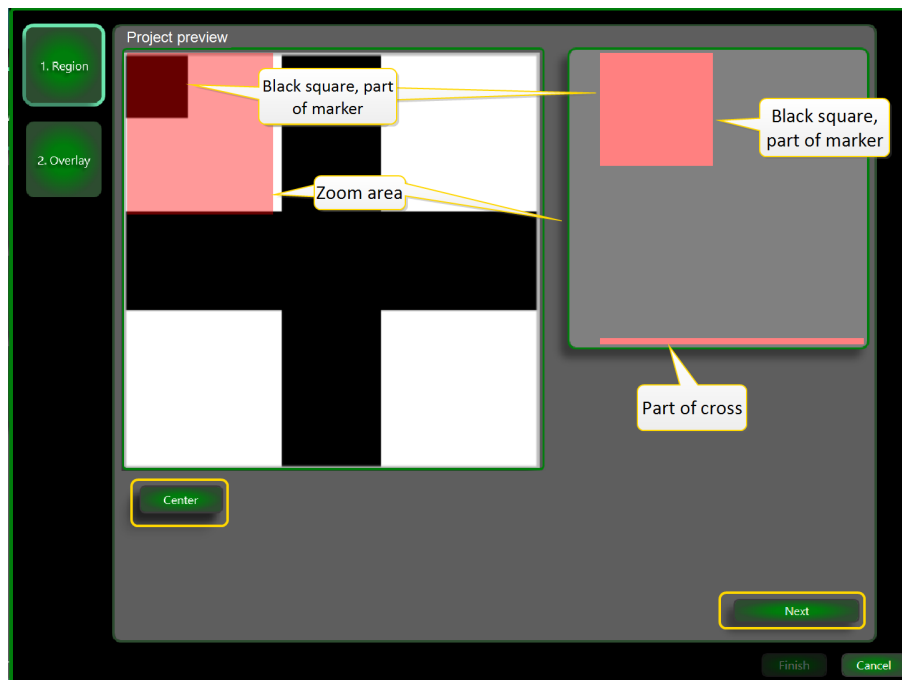
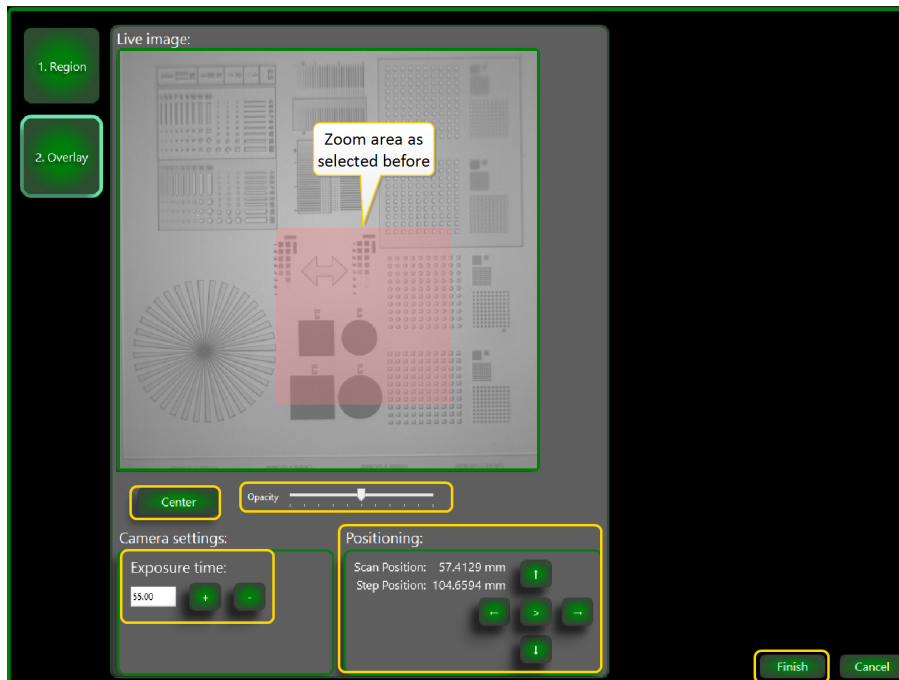

Figure 3-142 Project preview window
Figure 3-143 Project preview window
11. Press **Overlay**. The **Project preview** window becomes visible, see **Figure 3-142 on the facing page**.
The **Project preview** window shows the project image, NOT the alignment camera image. The **Project preview** window is used to select the part of the project that should be aligned to a part of the existing image on the substrate. The project shown in **Figure 3-142 above** is actually a marker.
13. Press **Next** or press the **Overlay** button to go to the **Live image** window, see **Figure 3-143 on the next page**.
Note: Figure 3-143 above shows the zoom area that you selected in Figure 3-142 on the previous page.